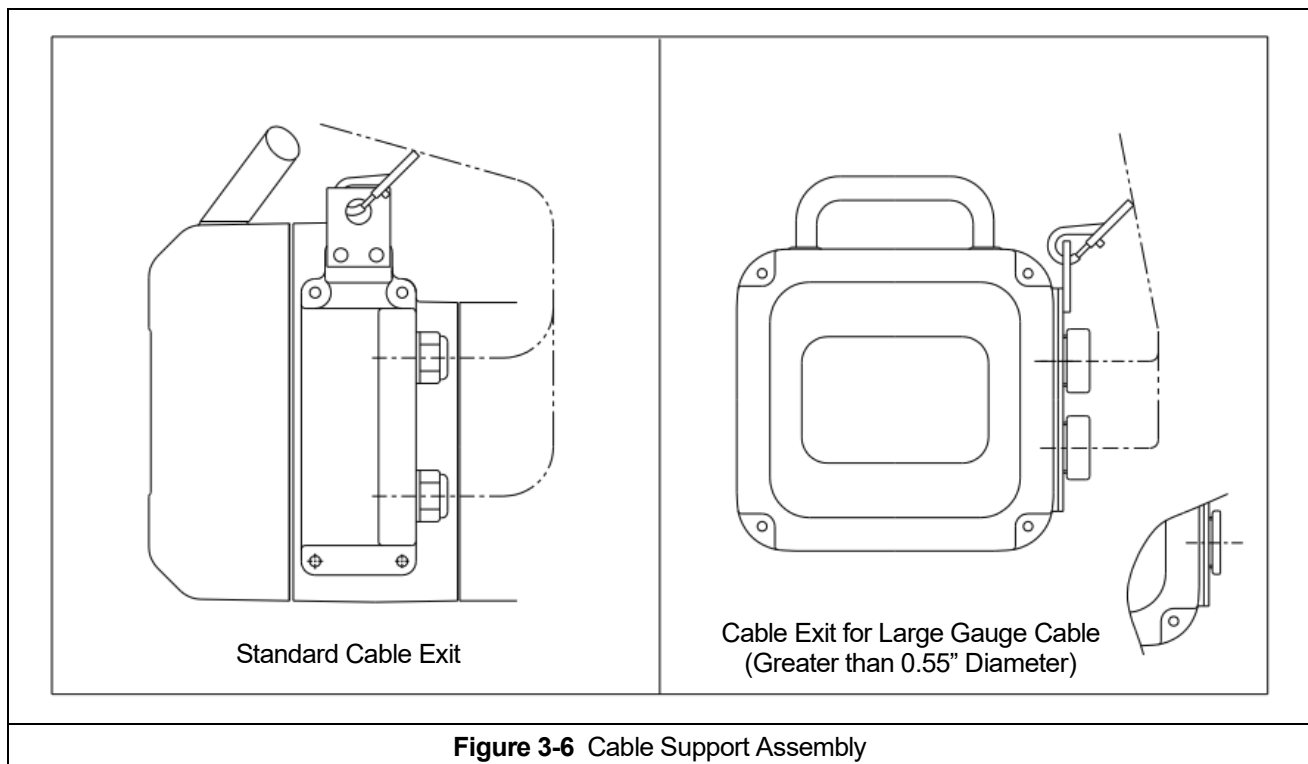

Figure 3-6 Cable Support Assembly
3.5.7 Ensure that the power supply cable and the control cord are supported by the Cable Support Assembly and connected to the Socket Holder as shown in Figure 3-6. Use care to avoid twisting or kinking the cables.